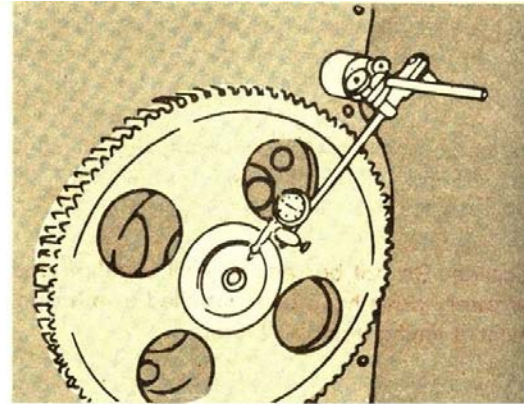

Fig. 14-23, Check the camshaft end clearance
7. Attach the dial Indicator gauge to the housing and check the camshaft end clearance. Fig. 14-23. It must be 0.006 to 0.013 inch (0.15 to 0.33mm). If the end clearance is not within limits, remove the camshaft and change the thrust plate as outlined in Group 1.